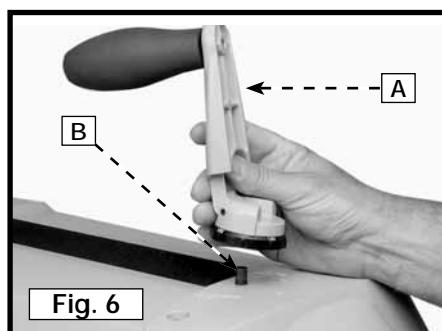

Fig. 6
1. Attach the cutterhead adjustment handle (A) Fig. 6 to the shaft (B), making certain that the flat on the shaft is engaged with the flat in the handle.